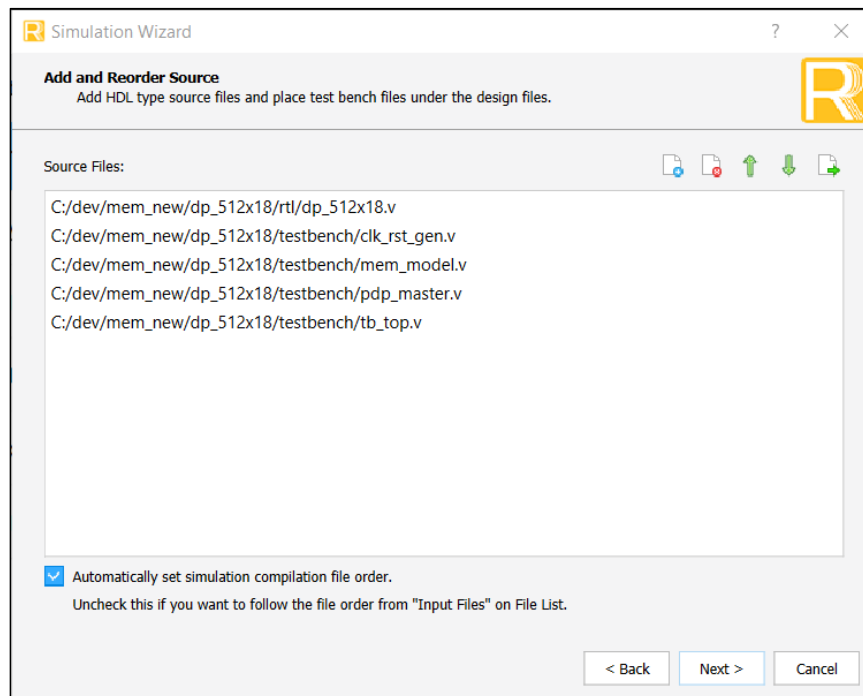

Figure 3.6. Simulation Wizard Add and Reorder Source
2. Click **Next** to open the **Add and Reorder Source** window as shown in Figure 3.6.